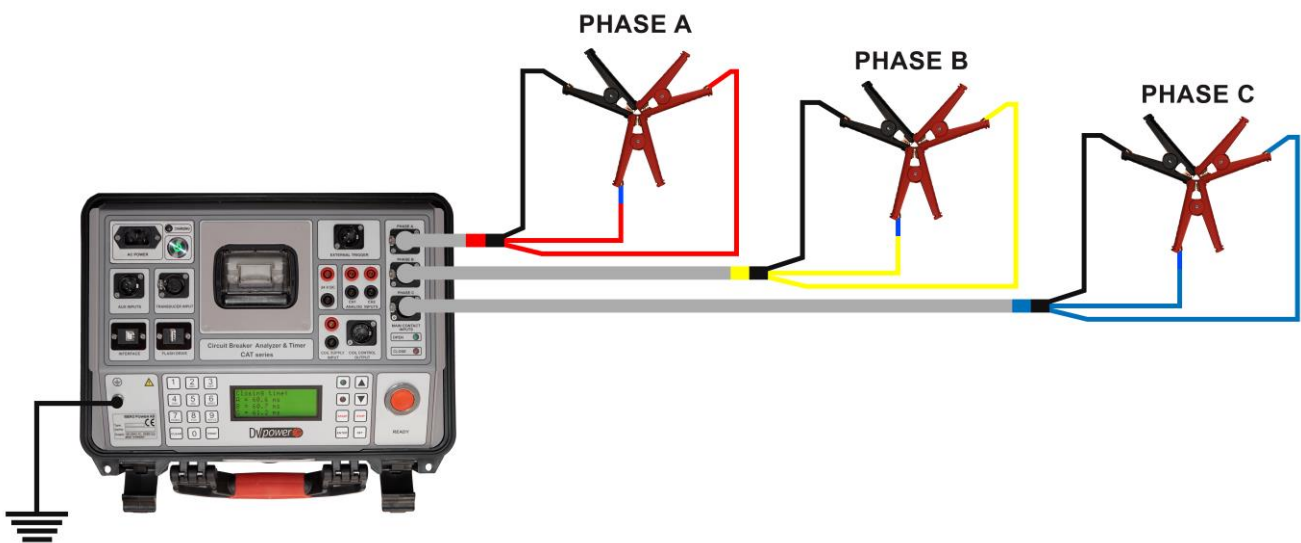

Figure 6-1: Main Contacts test
1. Connect all Main Contact cables to the device, short circuiting the clamps, as shown in the **Figure 6.1**.
Note: *In the Figure 6.1 the two breaks per phase test is selected as an example.*